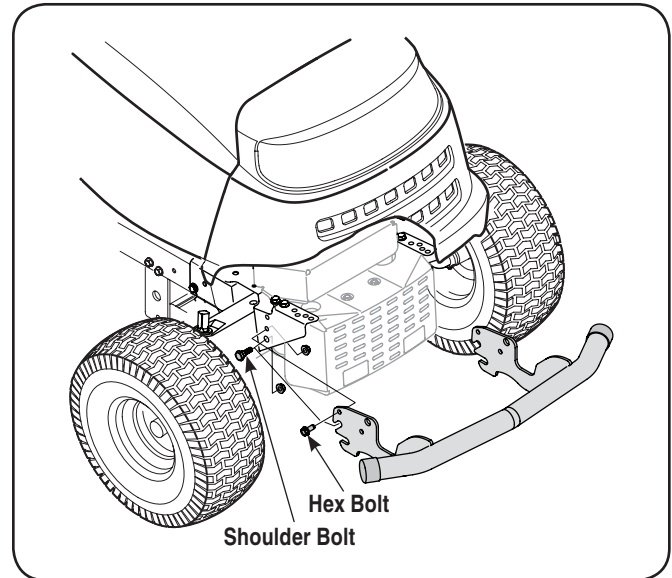

Figure 3-2
bumper over the upper rear holes in the bracket. See Figure 3-2.
2. Insert a 5/16-18" shoulder bolt, from the hardware pack, on each side of the tractor through the upper notched section of the bumper and then the aligning tractor mounting hole. Secure with a 5/16-18 flange lock nut from the hardware pack. See Fig. 3-2.
3. Insert a 5/16-18" hex bolt on each side from the outside through the holes and secure with the hex flange nuts. See Fig. 3-2.